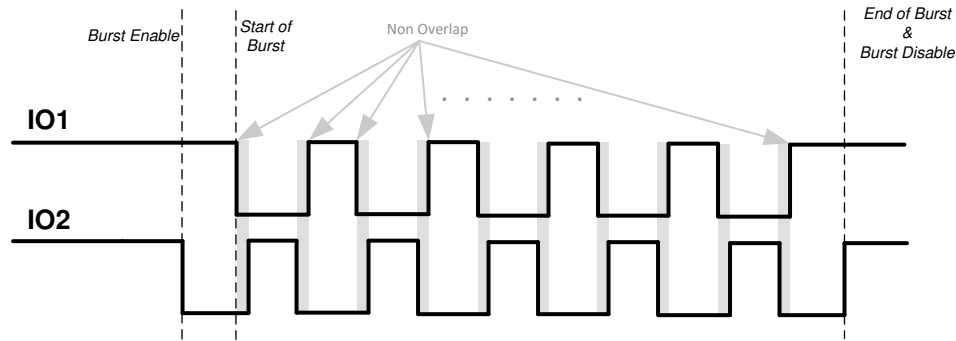

图 7-3. IO\_MODE 2 Description
- IO\_MODE = 2:** In this mode both IO1 and IO2 are used to control OUTA and OUTB. The burst enable is triggered when either IO1 or IO2 transitions from high to low. Start of burst (OUTA and OUTB changing state) happens only at the next falling edge of IO1. 图 7-3 shows the case where a high-to-low transition on IO2 is used to enable the burst. A burst is emulated when IO1 and IO2 are toggled in a non-overlapping sequence. After the start of burst, the state of OUTA and OUTB pins are determined by IO1 and IO2 pins. During a burst, if there is a condition where both IO1 and IO2 are high for more than half period of the internal clock  $f_{INT\_CLK}$  (caused by differential delays due to PCB parasitics or MCU code), an end of burst and burst mode disable will be triggered. Any falling edge just after this condition will be ignored to toggle OUTA and OUTB as it would be considered as a new burst enable signal. A systematic condition of overlap can cause a continuous end of burst trigger such that OUTA and OUTB do not toggle even though IO1 and IO2 are toggling. TI recommends no overlap or minimum non-overlap between the IO1 and IO2 signals when measured at the pins. BURST\_PULSE has no effect in this mode.